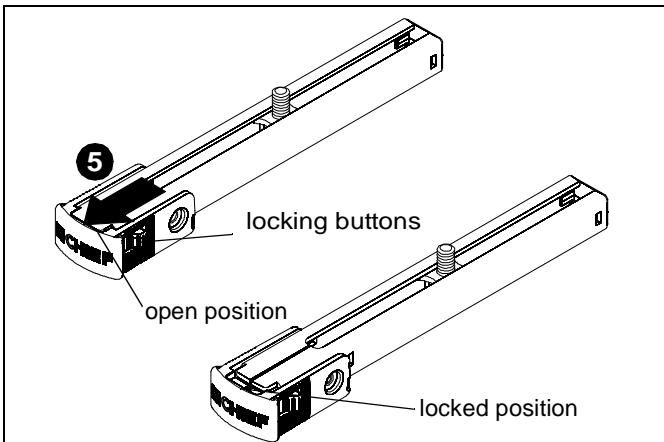
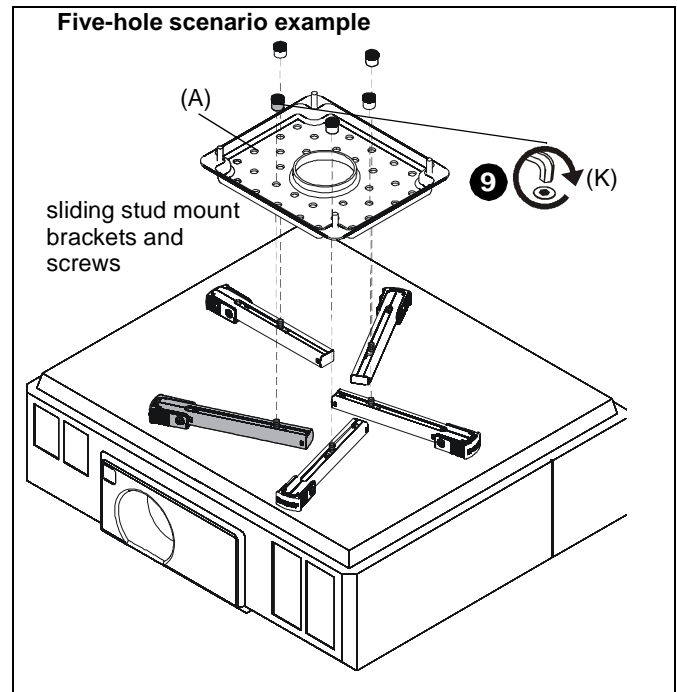

Figure 5
Figure 6
- Press locking buttons on SLBLEG accessory (A) firmly and simultaneously push clip cover away from enclosed sliding stud mount bracket until clip cover is in the locked position. (See Figure 5)
- Maneuver legs so that sliding stud mount brackets and screws are towards the middle of the projector. (See Figure 5) and (See Figure 6)
- Position sliding stud mount brackets and screws so that SLBU or SLMU main plate can be evenly mounted to legs. (See Figure 5) and (See Figure 6)
- Use 1/4" hex key (L) to secure Allen nuts (K) to screws on sliding stud mounts. (See Figure 5) and (See Figure 6)